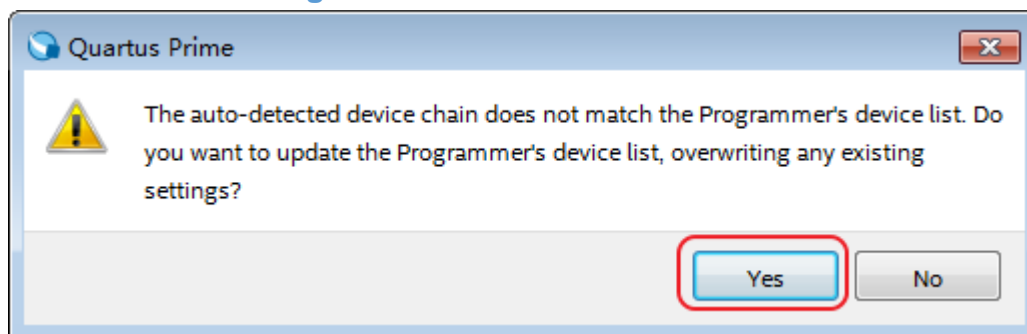

Figure 4-6 Updating the device
- You will see a CFI_1Gb Flash detected on the JTAG chain. Press Yes to update the device list as shown in **Figure 4-6**.